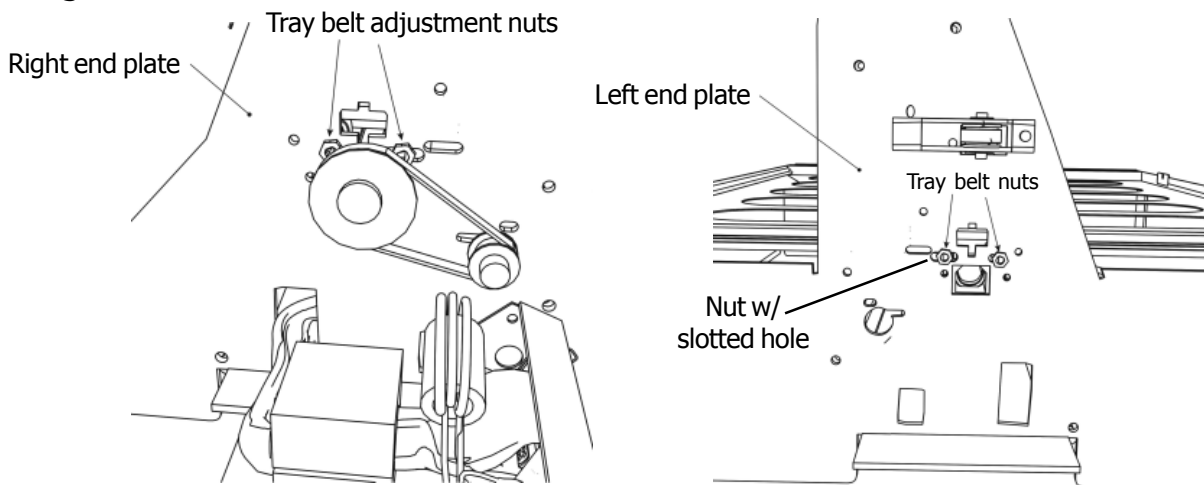

Fig. 5-12 Right and left end plates showing tray adjustment nuts
3. Loosen the (2) 11/32" nuts located on either side of the "X" axis tray gear. See *Fig. 5-12*
8. Tighten the belts by tightening the tray adjustment nuts on the right, and left end plates. *Refer to Fig. 5-12*. The nut with the slotted hole is the main tightening nut. Before tightening fully, push the nut in the direction of the back of the 300 cutter, then tighten.